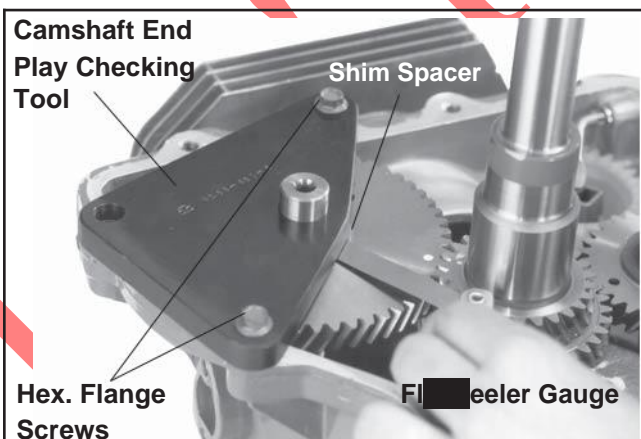

Figure 11-14. Checking Camshaft End Play.
2. Install the camshaft end play checking Tool No. KO1031 to the crankcase and camshaft. Secure the tool to the crankcase with the hex. flange screws provided. See Figure 11-14.